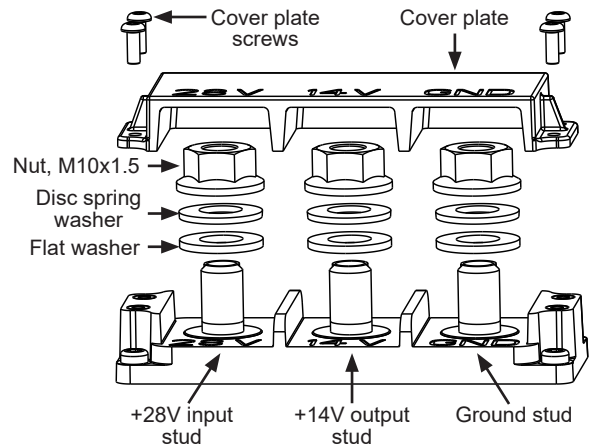

Figure 2: Input/Output Terminal Location and Stacking Order
2. Remove Input/output stud cover plate and connect battery cables in the following sequence, following the stacking order shown in Figure 2: